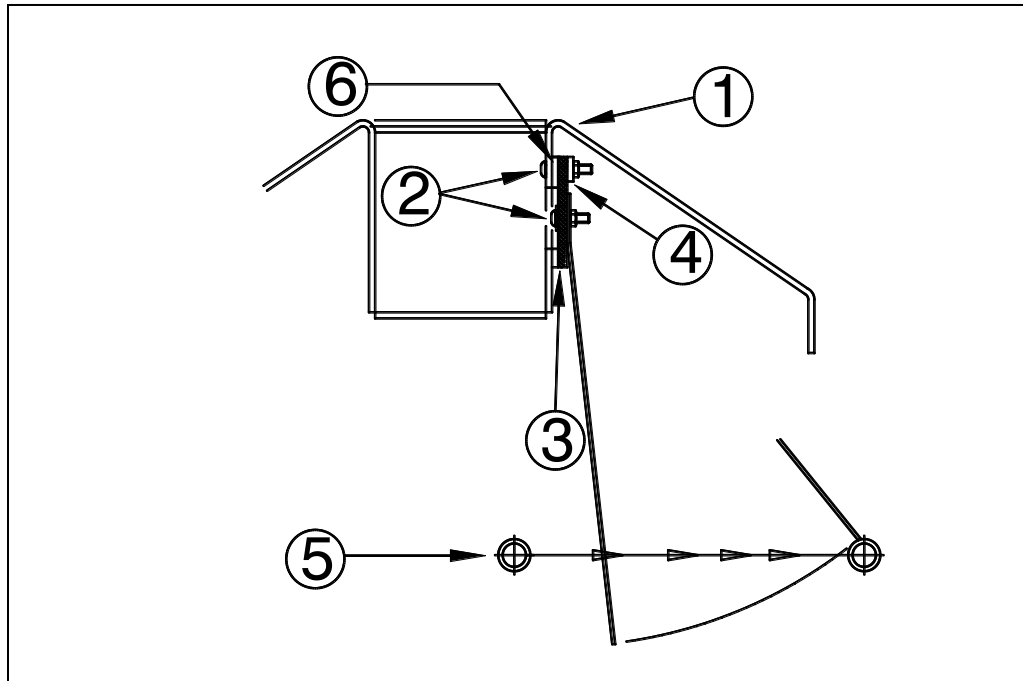

Figure 2.17a
1. Mount the neoprene diaphragm to the flush lever, as shown on the Flush Valve Assembly drawing and Figure 2.17a, using the specified pan head machine screws, washers and nuts.